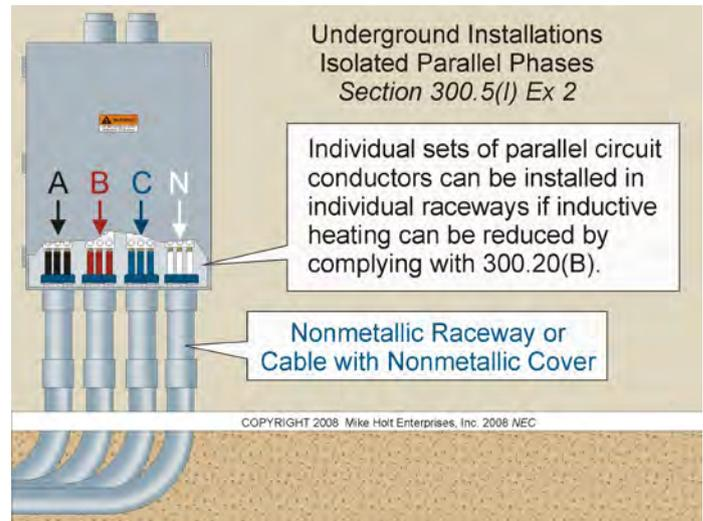

Figure 300-15
*Exception No. 2: Individual sets of parallel circuit conductors can be installed in underground PVC conduits, if inductive heating at raceway terminations is reduced by complying with 300.20(B) [300.3(B)(1) and 300.3(B)(3)]. **Figure 300-15***